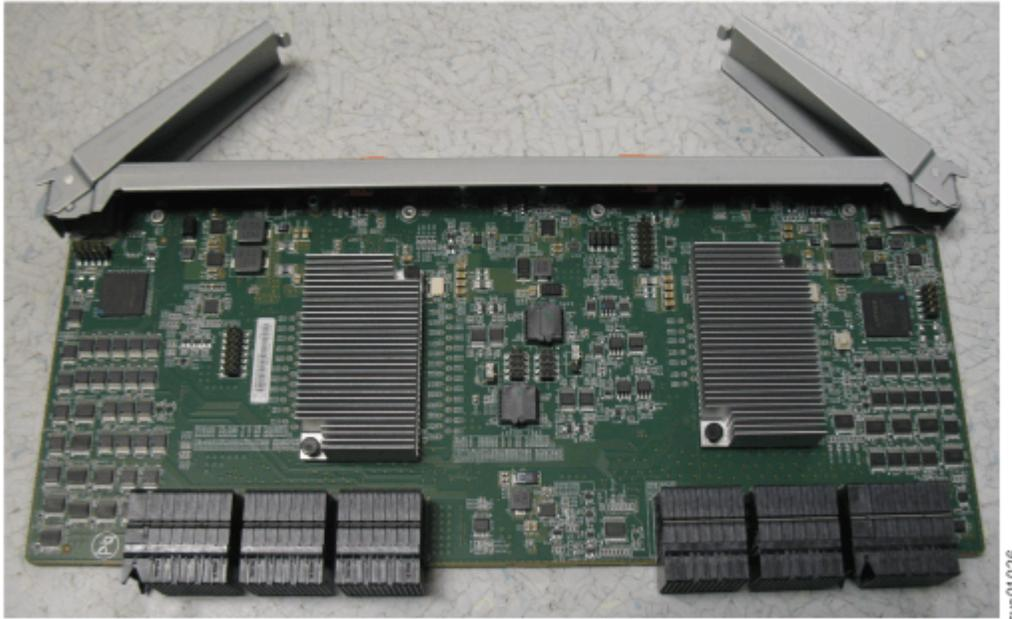

Figure 88. Open the secondary expander module handles
3. Rotate both handles on the new secondary expander module to an open position, as shown in Figure 88 on page 79.